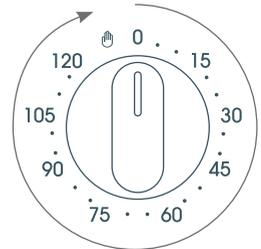

Fig. 16 Setting the oven to manual mode
- 3 Turn the timer knob clockwise to the 👉 symbol (Fig. 16). You should be able to hear a click as you turn the knob beyond the 120-minute mark. You have now set the oven to manual mode.